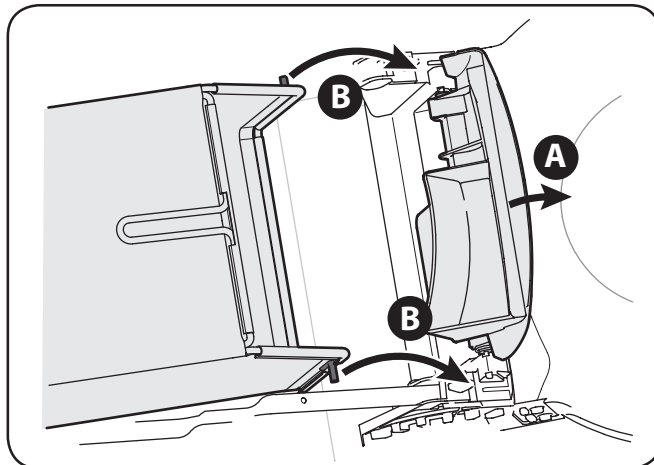

Figure 3-7
- Follow steps below to attach grass catcher. See Figure 3-7.